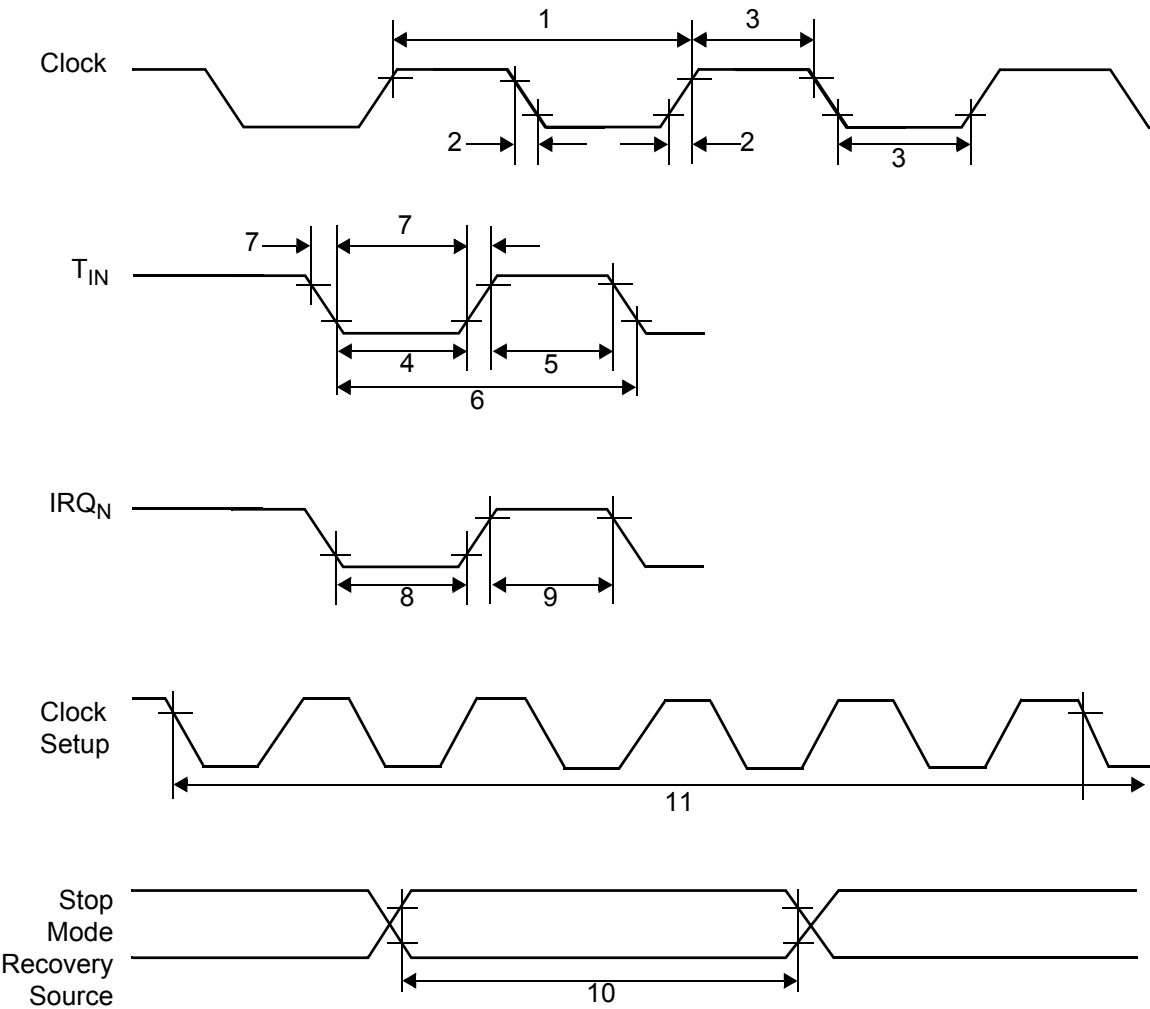

Figure 57. AC Timing Diagram
Figure 57 and Table 20 describe the Alternating Current (AC) characteristics.